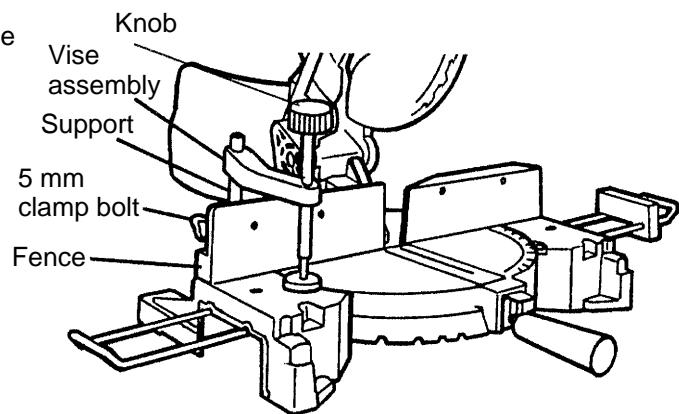

Fig. 5
(2) The vise ass'y can be mounted on either the left side fence or the right side fence, and can be raised or lowered according to the height of the workpiece.
① Insert the support of the vise ass'y into the hole located on either the left side fence or the right side fence.
② Then tighten the 5 mm clamp bolt, as shown in Fig. 5.
③ Turn the knob to thoroughly clamp the workpiece.